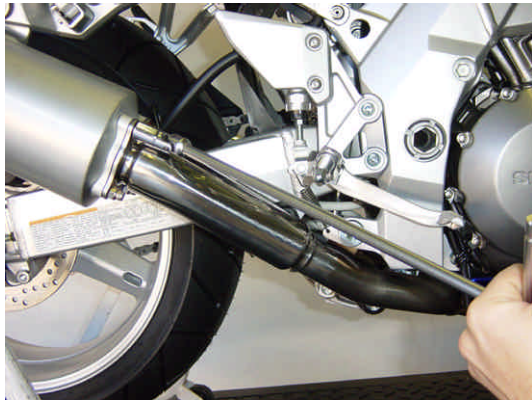

Figure 1
2. unscrew and remove the bolts on the muffler flange at the muffler - link pipe (header assembly) joint (**Figure 1**)